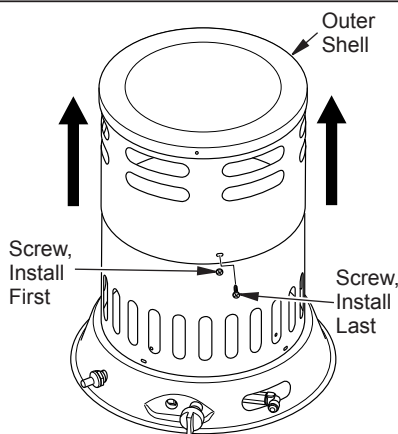

Figure 2 - Lifting Outer Shell
1. Care must be taken to protect hands during this step. Lift outer shell straight up as shown in Figure 2, until screw holes line up and slotted holes are visible.
2. Install 3 screws in lower holes as shown in Figure 2. Let upper shell rest on lower screws. Holes and slots will line up.